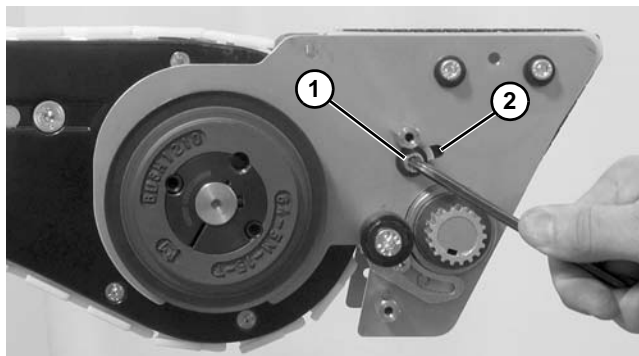

Figure 162
4. Loosen idler socket head screw (**Figure 162, item 1**) on both sides of the conveyor.
5. Slide idler assembly within slot (**Figure 162, item 2**) to remove tension on belt.